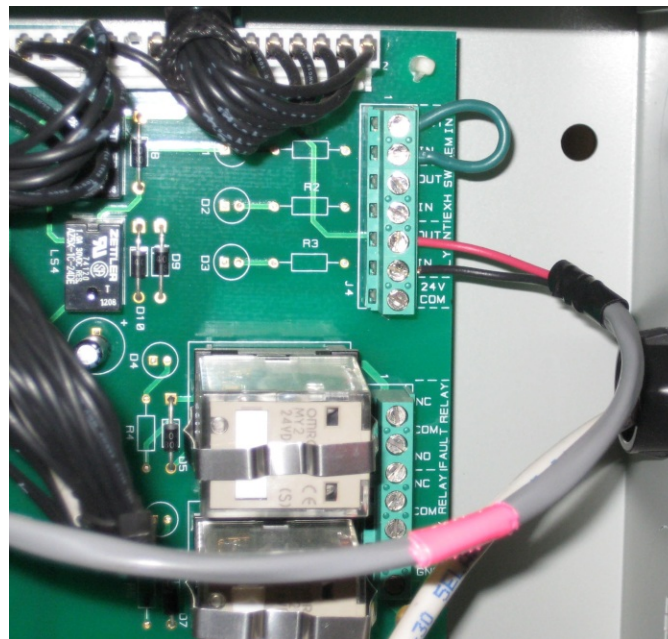

Figure 2-15: Sequencing Isolation Valve Installed
2. The boiler's shell harness has one unused cable. One end of this cable is connected to the DELAYED INTERLOCK IN terminals in the I/O board (see Figure 2-15) while the other end contains a Molex connector with a jumper wire inserted in it (this jumper wire allows units that do not have a sequencing isolation valve to operate normally). Find the free end of this cable inside the unit's enclosure.